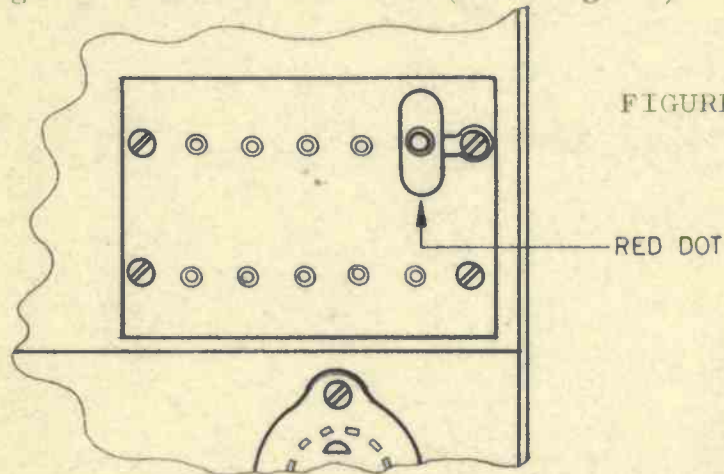

FIGURE 2
- 1) Connect the oscillator plug to the 1st accessory crystal socket through the HC6 adapter; ground connection must be fastened to the screw on the right the socket itself. (See Fig. 2)